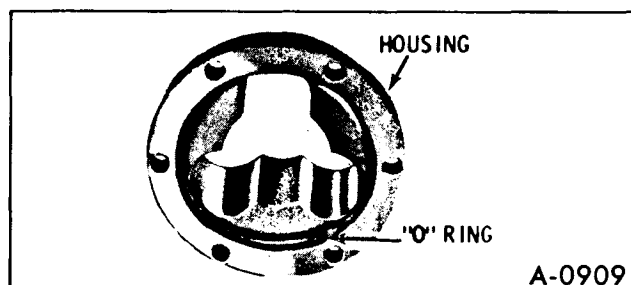

Figure 28—Installing "O" Ring in Housing
3. Position retaining ring on axle shaft in the inner groove. (figure 28)
7. If rear cover was removed, install new "O" ring in housing and lubricate "O" ring with 1050802 lubricant or equivalent. (figure 28)